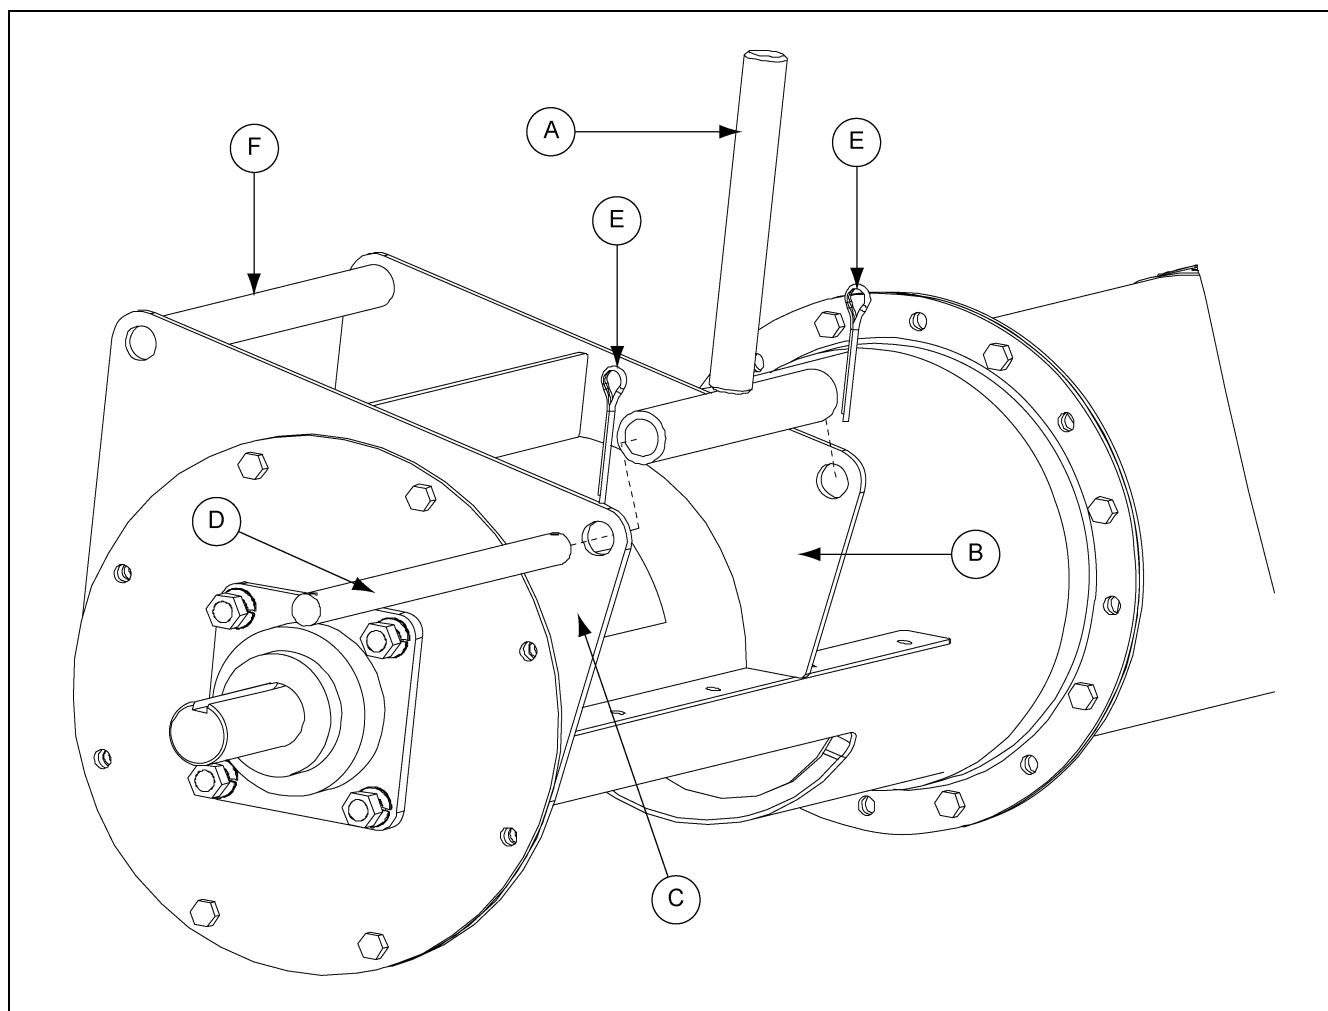

Figure 4D
1. Place motor mount adjuster (A) between the back plate (B) and head plate (C) on the discharge tube.
2. Insert pivot rod (D) through the tube plates and motor mount adjuster. Secure in place with two (2) 3/16" x 2" cotter pins (E). (See Figure 4D.)